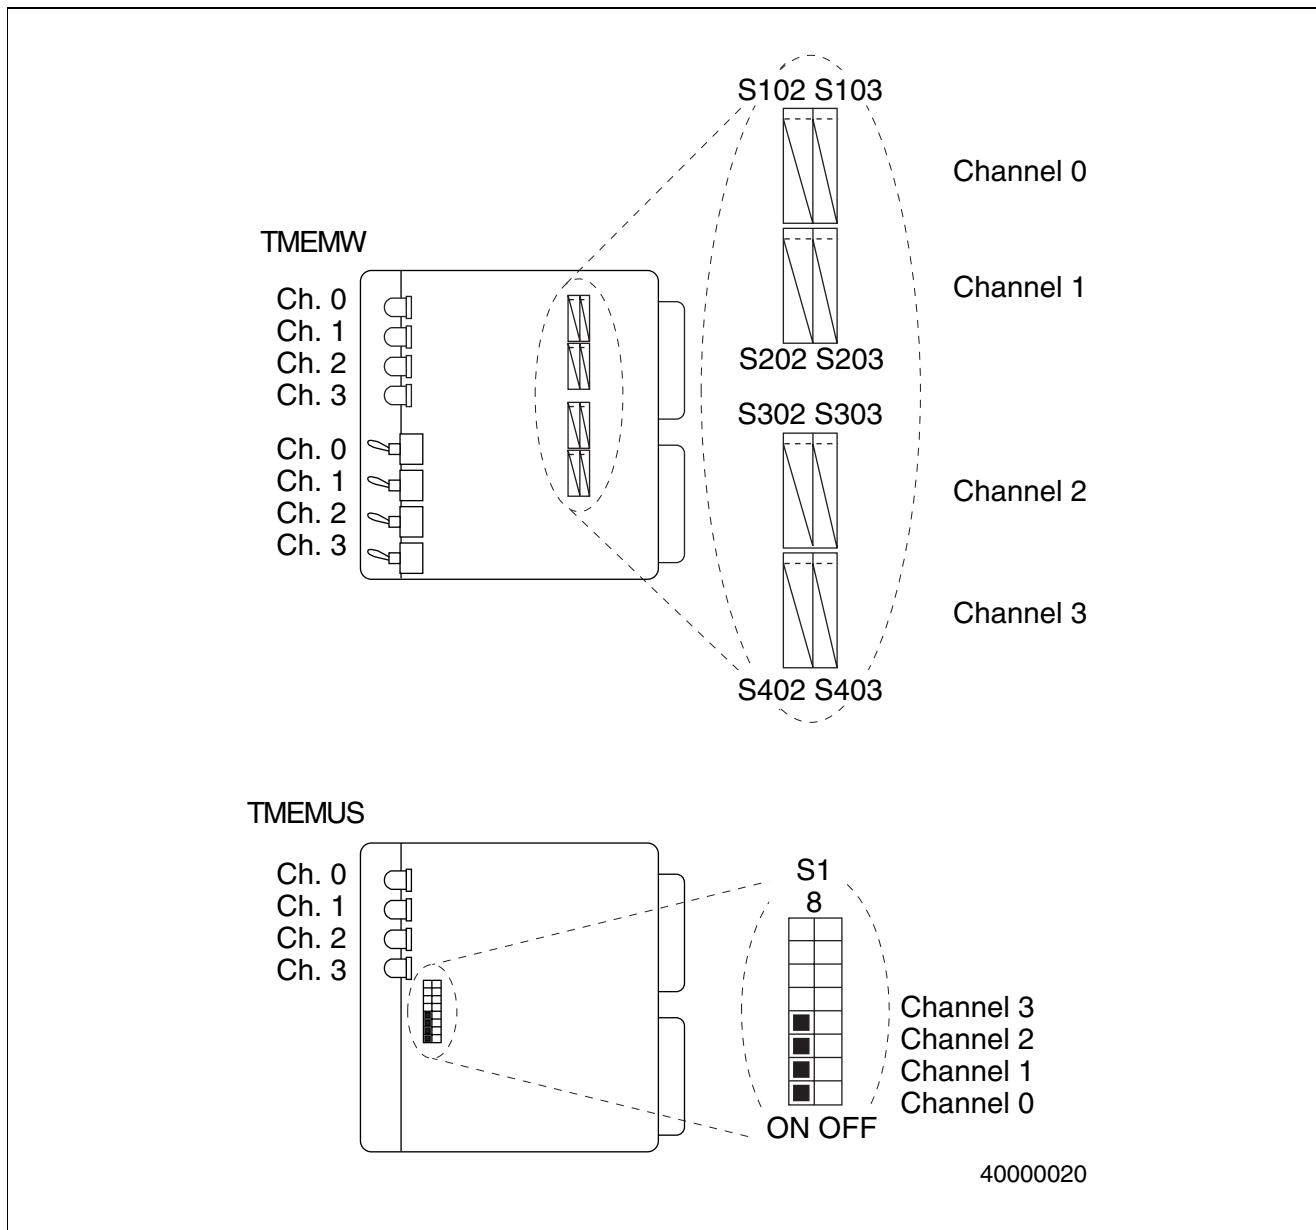
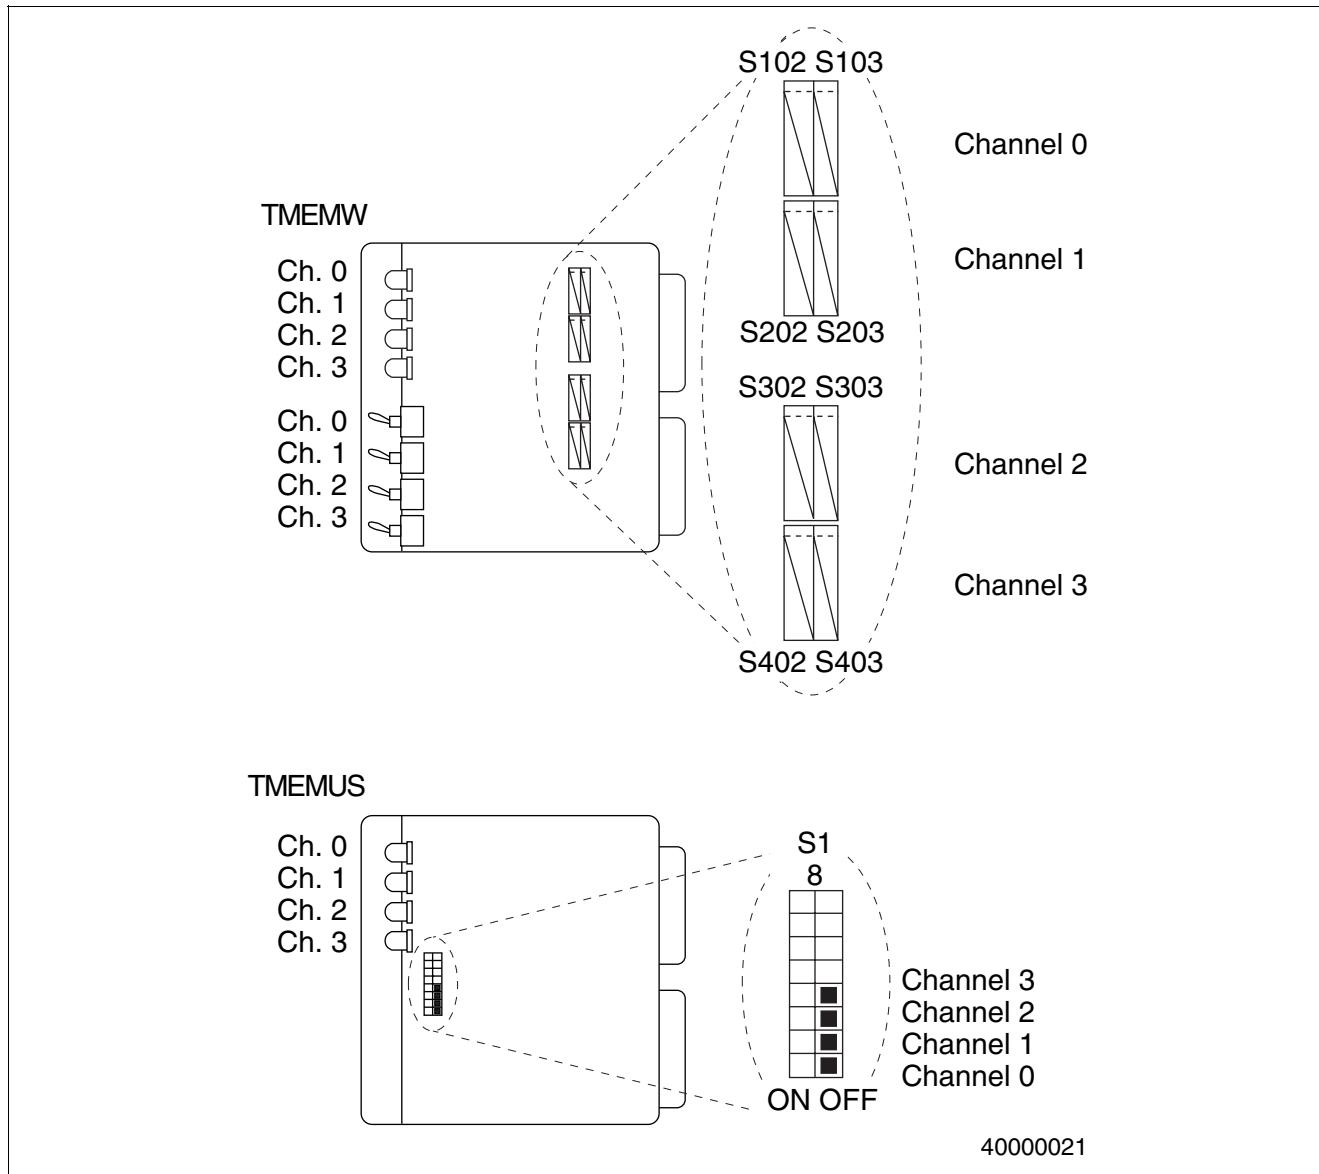

Figure 3-120 TMEMW and TMEMUS Board Jumper Settings for Standard M Signaling (ON)
Figure 3-121 TMEMW and TMEMUS Board Jumper Settings for Inverted M Signaling (OFF)
- Four front panel channel and blocking switches (Figure 3-120 and Figure 3-121)